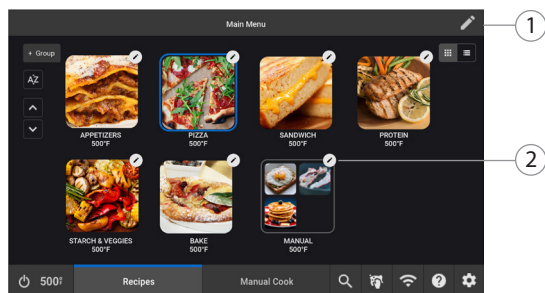

Figure 24: Select Group to Edit
- Touch the Edit button in the top-right corner of the screen (Figure 24, above).
- Touch the Edit Pencil button for the group you want to edit (Figure 24, above).
- Select an option (Figure 24, adjacent column).